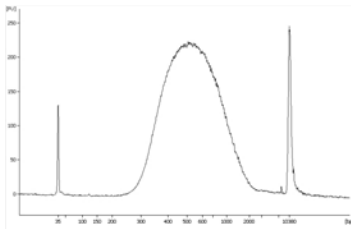

Figure 2. Capillary electrophoresis device trace data showing the correct size distribution of library fragments and the absence of adapters or adapter-dimers.
30. Assess the quality of the library using a capillary electrophoresis device or comparable method. Check for the correct size distribution (see Figure 2) of library fragments and for the absence of adapters or adapter-dimers.